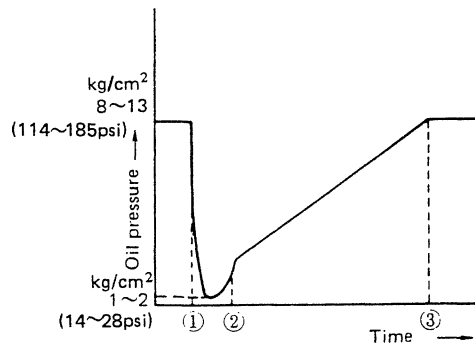

Fig. 2.9 Characteristics of Clutch Engaging Oil Pressure
Fig. 2.9 is a graph of oil pressure at the time of clutch shift. When the clutch is shifted at time ①, oil pressure is reduced sharply. Between time ① and ②, oil is fed in. At time ②, the piston starts to push the clutch.